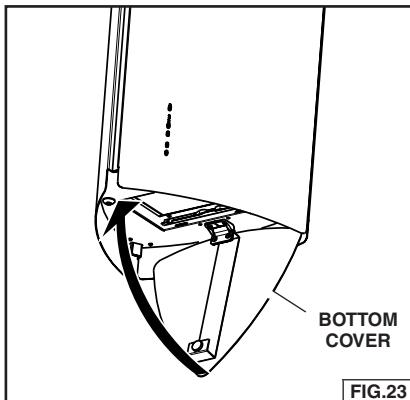

FIG.23
3. Close the bottom cover and remove all of the protective coating. Fig. 23.